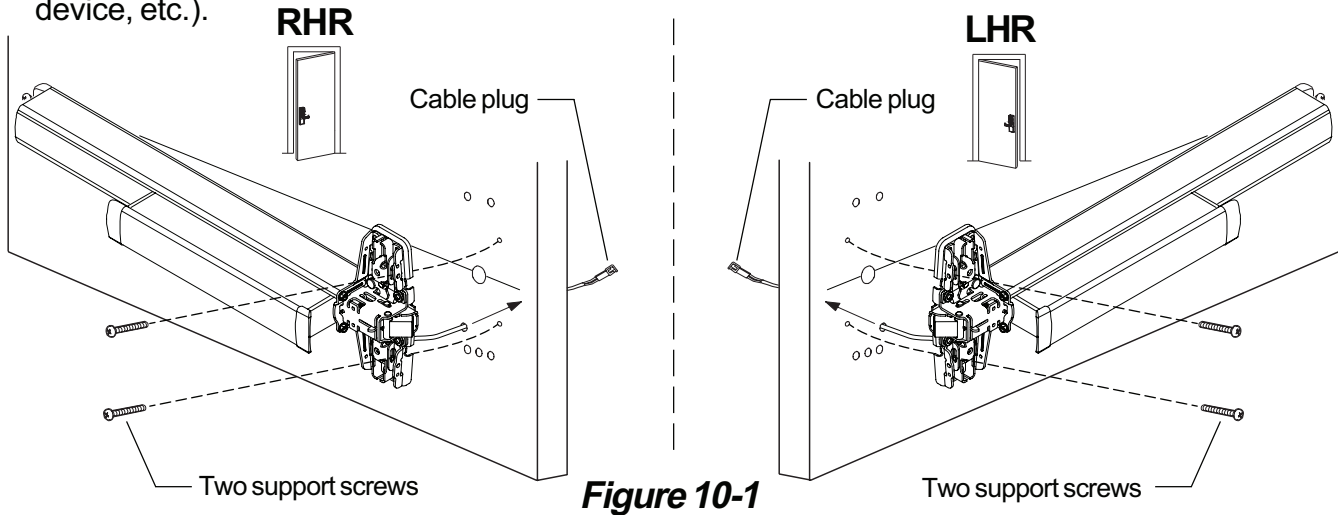

Figure 10-1
10.3. Pull center case away from door and route E996L cable plug through wire access hole in door (Figure 10-1).
10.4. For 98/99 Rim, 98/9927, and 98/9975 secure center case to door using two support screws (Figure 10-1) or by some other temporary means (use clamps, have a helper hold the device, etc.).